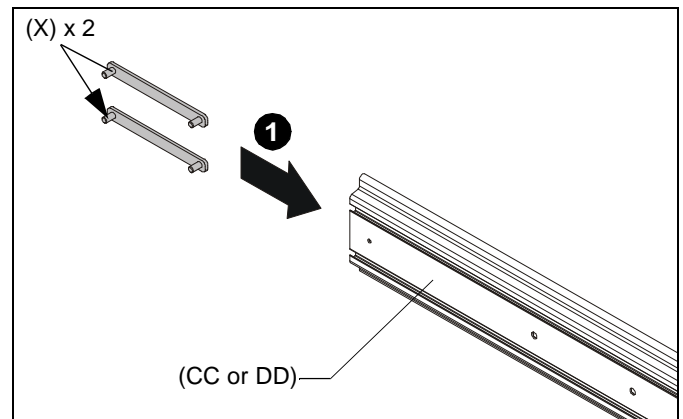

Figure 10
1. Slide two T-slot nuts (X - one in top mounting rail slot and one in bottom) for each screen into end of mounting rail (CC or DD). (See Figure 10)